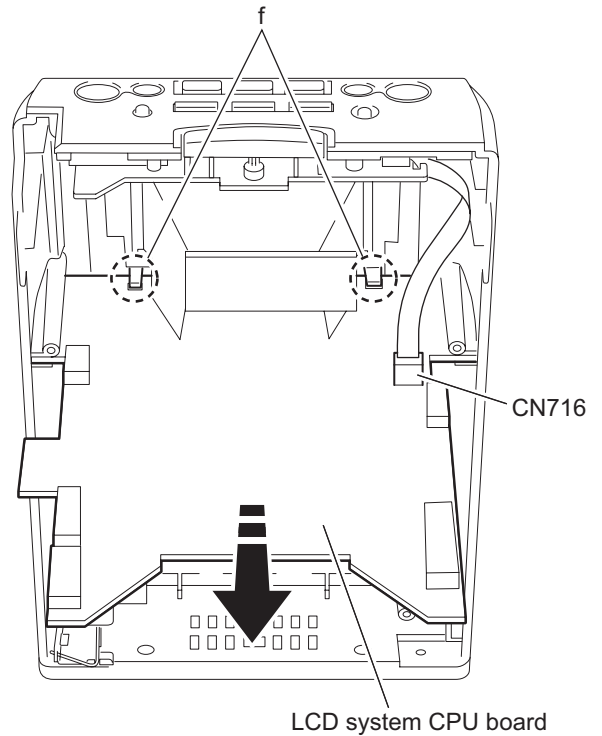

Fig.18
2.1.9 Remove the LCD system CPU board (See Fig.18)